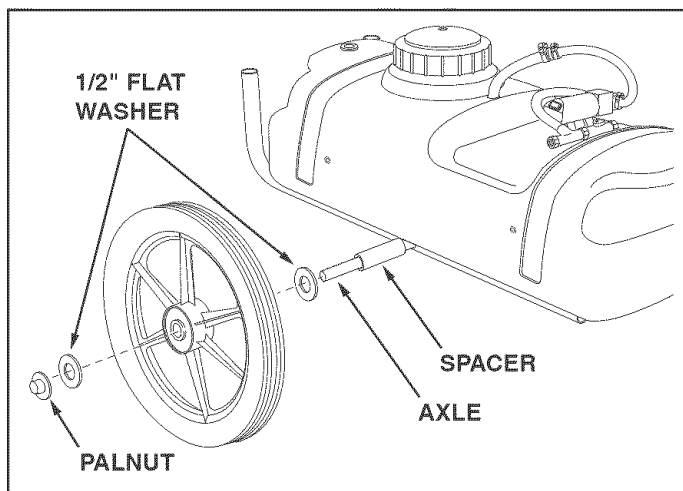

FIGURE 1
- (1) Hammer
- Assemble the axle through the large holes in the frame tubes. If the axle will not fit, slightly loosen the bolts in the frame tubes to align the holes. Retighten the bolts after assembling axle. See figure 1.
- Assemble a spacer, a 1/2" flat washer, a wheel and another 1/2" flat washer onto the axle. Lightly tap a palnut onto the end of the axle. Repeat on other end of axle. See figure 1.